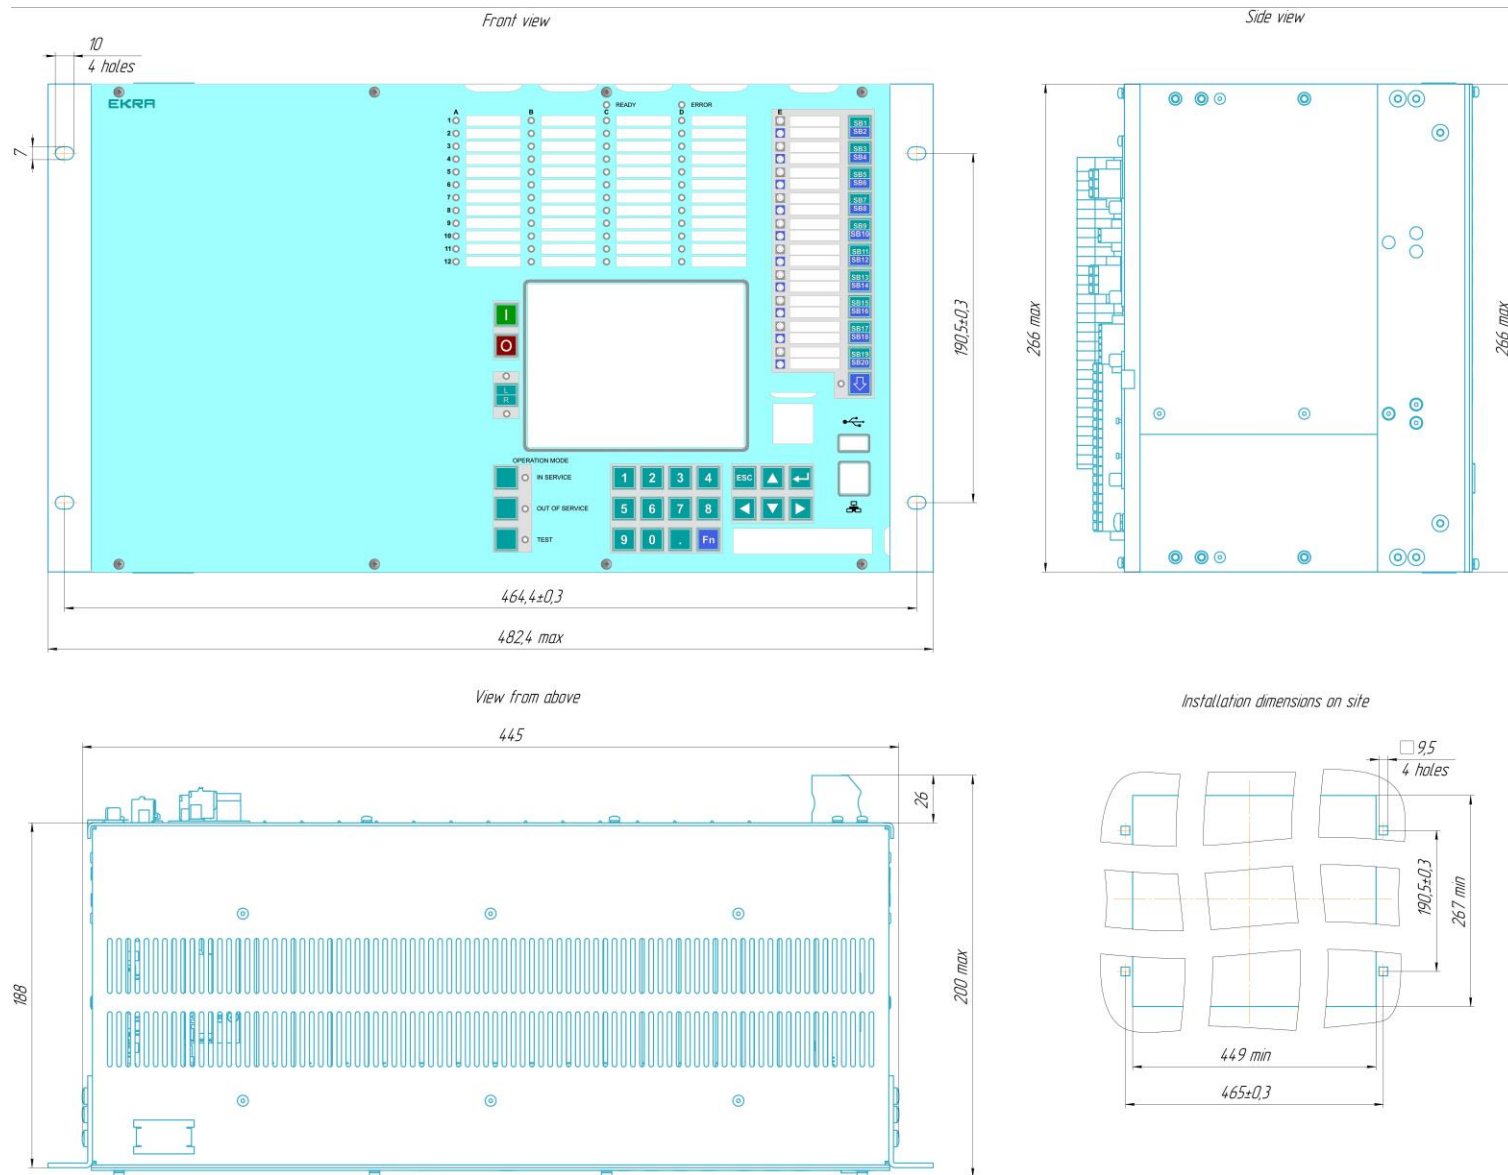

Figure 12 – General view, overall, installation dimensions of the ED2 devices of 19" design
5.9.4 General view, overall, installation dimensions of the ED2 devices of 19" design are shown in figure 12.